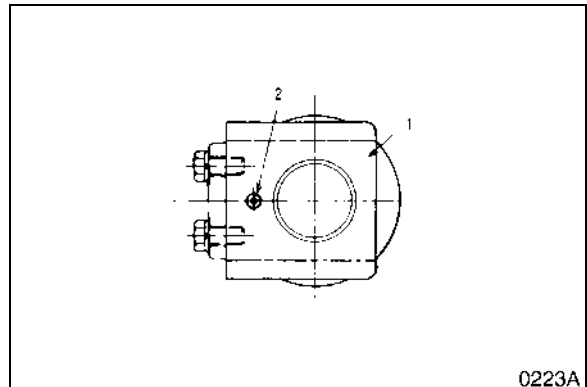

Figure 20
1. Remove plug (2, Figure 20) and drain oil from roller assembly (1).